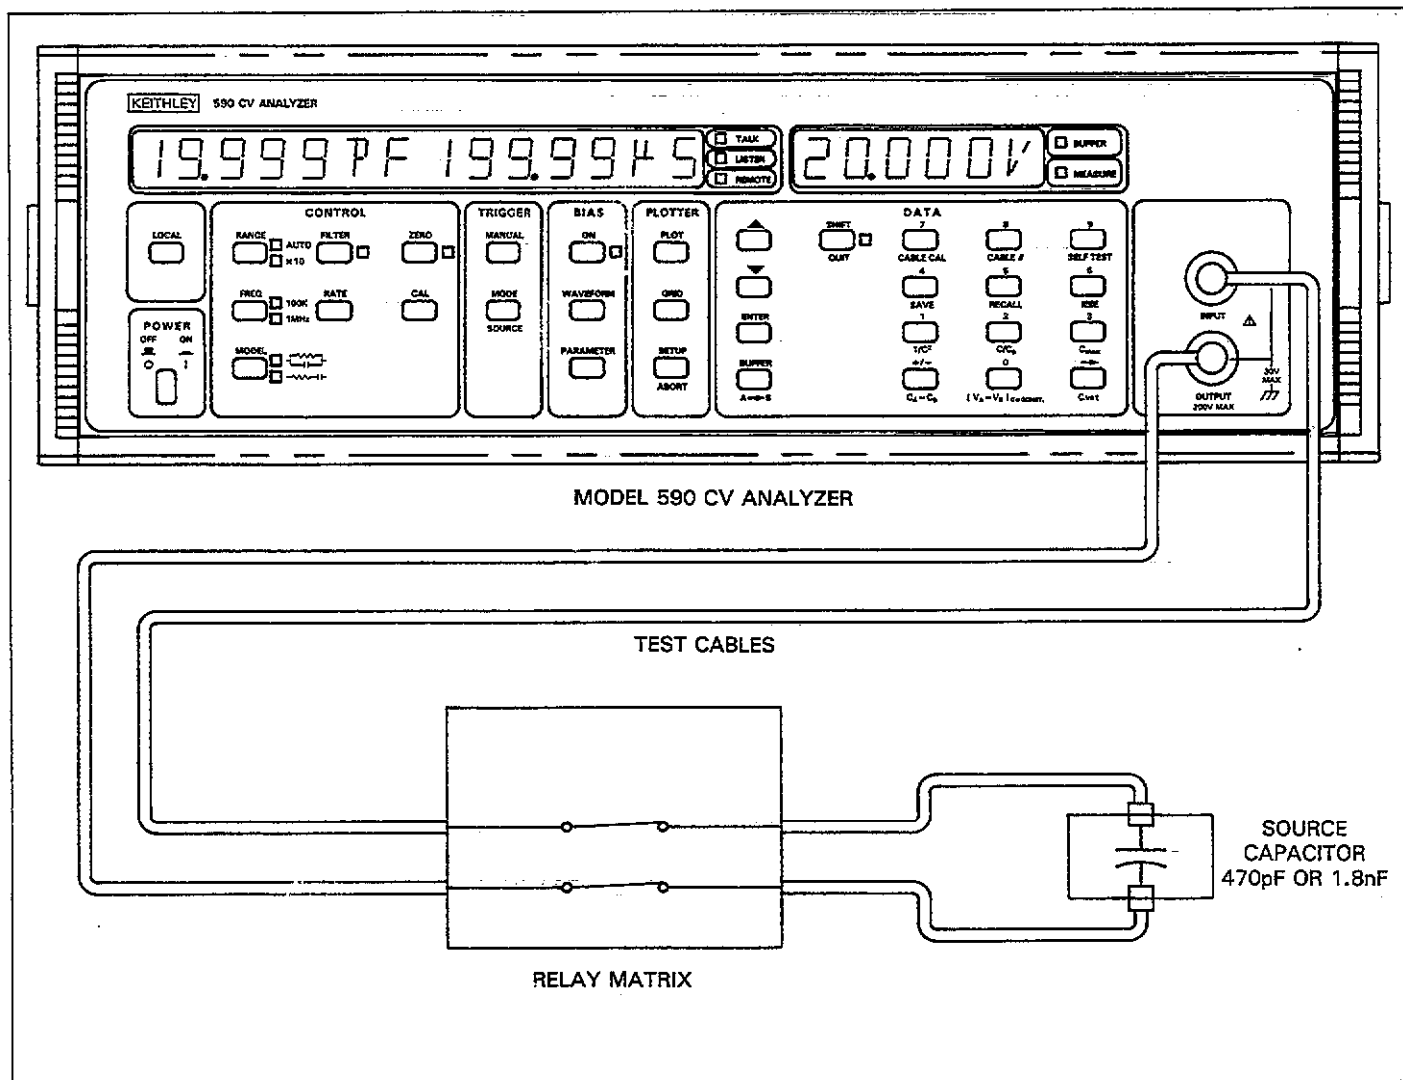

Figure 4-53. Connections for Calibration Capacitor Correction
Figure 4-53 shows typical connections for this method of cable correction. Again, we have assumed that a relay matrix will be included in the test path. Of course, your par-
- 7. Connect the 1.8nF capacitance source listed in Table 4-23 in place of your test fixture as shown in Figure 4-53.